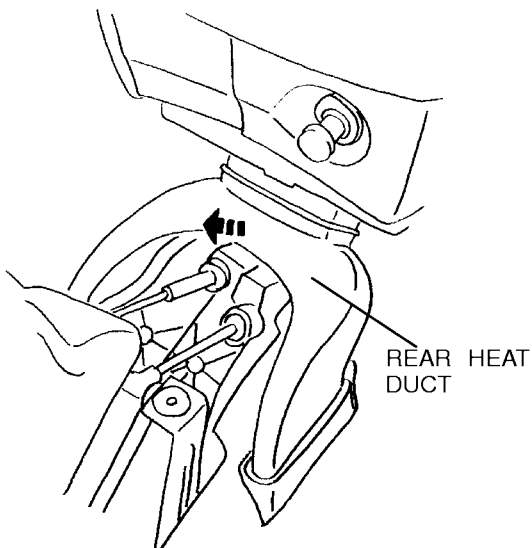

FIGURE 8
3. Remove the rear heat duct (refer to Figure 8).